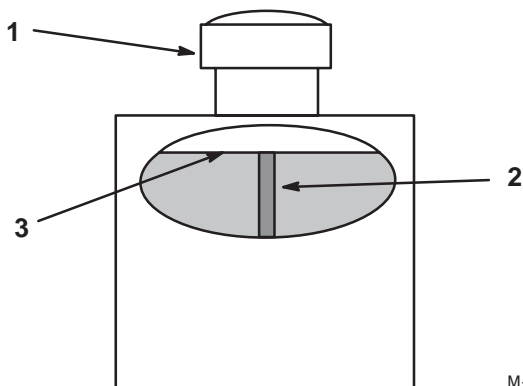

Figure 7
2. Clean area around filler neck of hydraulic tank (Fig. 7).
3. Remove cap from filler neck. Look inside to check if there is fluid in the reservoir (Fig. 7).
Note: Fluid level should be to the top of the baffle when fluid is warm (Fig. 7).